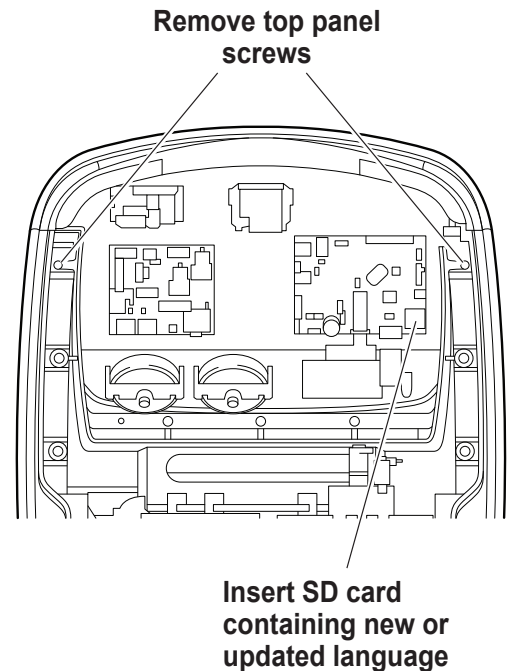

Figure 9
2. Remove the top panel retention screws and rotate the top panel about its hinge to access the SD card slot on the control panel. See Figure 9.